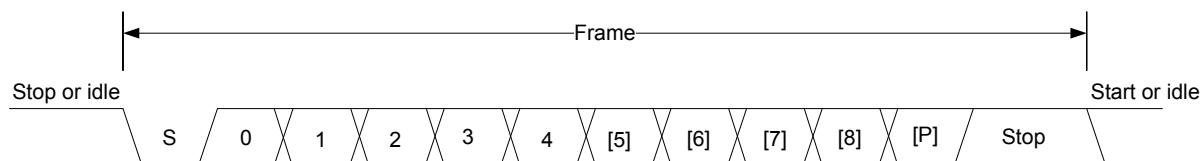

Figure 21.2. Frame Format
The frame format used in asynchronous mode consists of a set of data bits in addition to bits for synchronization and optionally a parity bit for error checking. A frame starts with one start-bit (S), where the line is driven low for one bit-period. This signals the start of a frame, and is used for synchronization. Following the start bit are 7 to 9 data bits and an optional parity bit. Finally, a number of stop-bits, where the line is driven high that indicates the end of the frame. An example frame is shown in Figure 21.2 Frame Format on page 639.